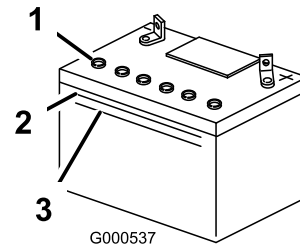

Figure 1
3. Remove the vent caps from the battery (Figure 1). Slowly pour electrolyte into each battery cell until the electrolyte level is up to the Upper line on the battery case (Figure 1).
4. Wait five to ten minutes after filling the battery cells. Add electrolyte, if necessary, until the electrolyte level is up to the Upper line (Figure 1) on the battery case.